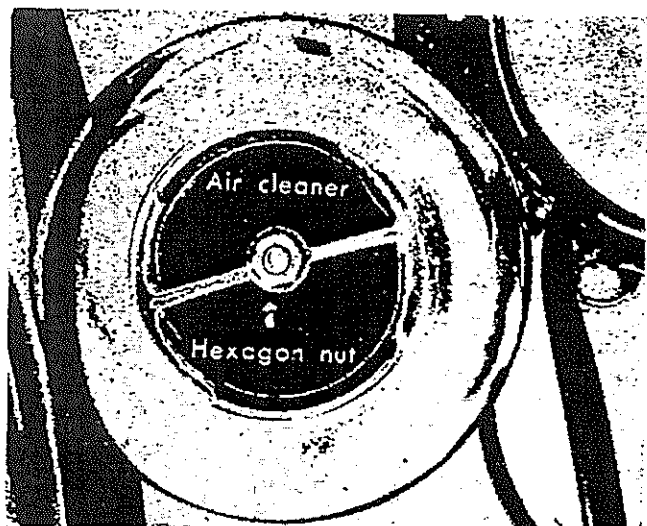

Fig. 32
- a) Take off air cleaner by removing hexagon nut and clean it every 3,000 km (2000 miles). (Fig. 32)